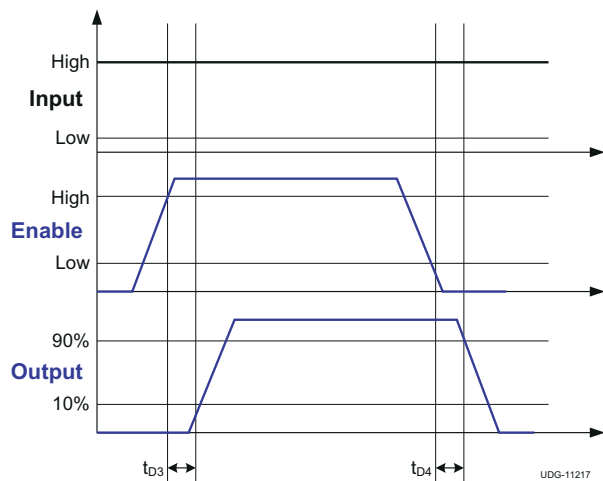
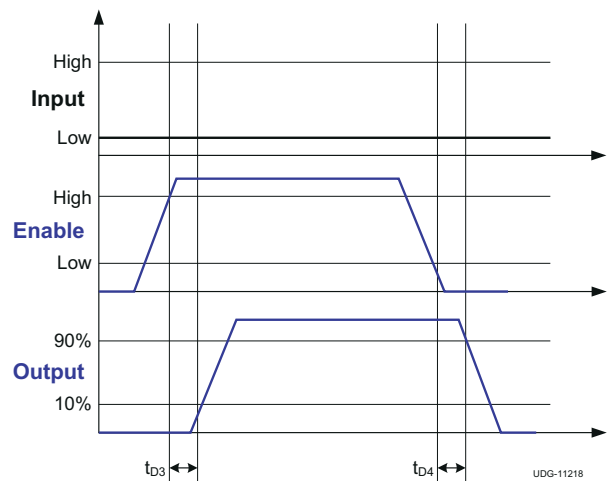
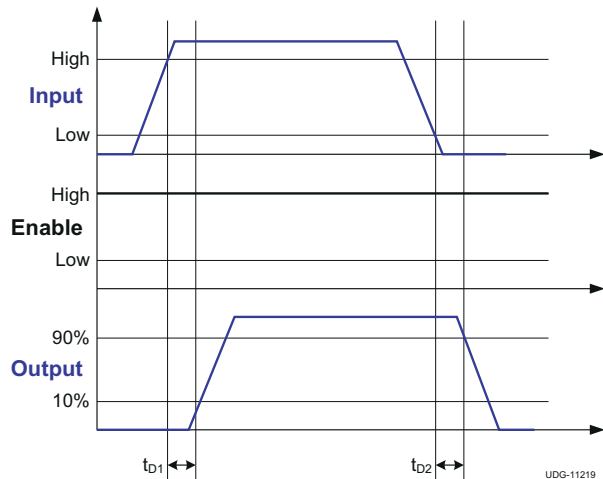
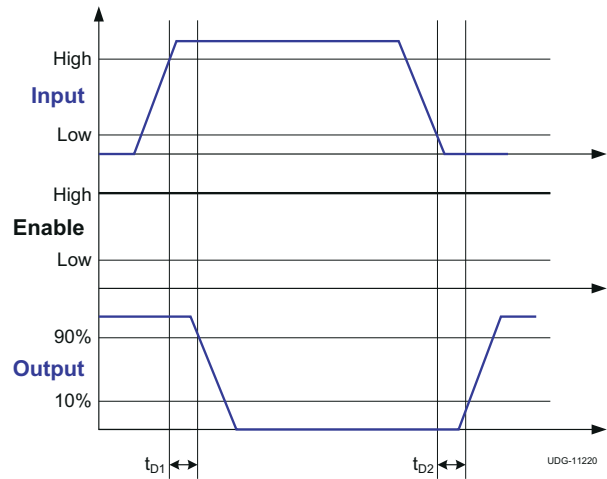

Fig 6-1. Enable Function (For Non-Inverting Input Driver Operation)
Fig 6-2. Enable Function (For Inverting Input Driver Operation)
Fig 6-3. Non-Inverting Input Driver Operation
Fig 6-4. Inverting Input Driver Operation
(1) See timing diagrams in Fig 6-1, Fig 6-2, Fig 6-3, and Fig 6-4